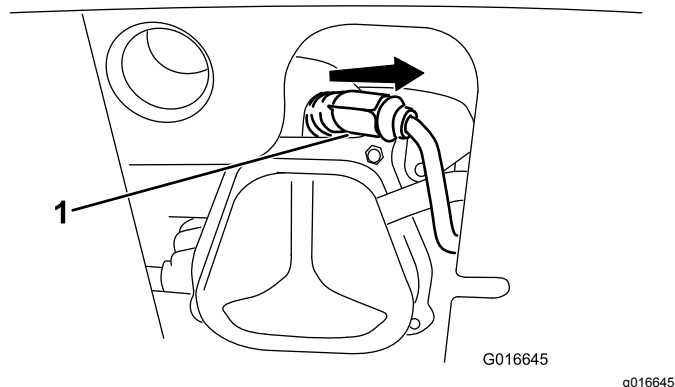

Figure 32
1. Remove the boot (Figure 32).